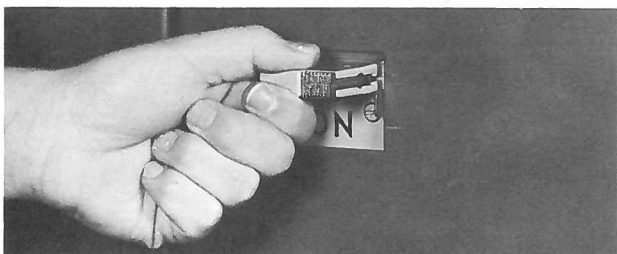

Fig. 15a Operating Handle and Defeater Screw
Finally, all mechanical latches, operating mechanisms and door assemblies should be checked for proper alignment and operation. Mishandling in transit can cause misalignment. The doors can be adjusted by loosening the screws on the hinge leaves attached to the structural members. A final check on the proper positioning of each door dictates that the disconnect operating mechanism operates correctly without mechanical interference in both the "ON" and "OFF" positions. When the mechanism is in the "ON" position, the door should not open. Figure 15c shows the door interlock on the rear of the door and its method of adjustment. Turning the defeater screw below the operating handle a quarter turn counterclockwise will defeat this door interlock (Fig. 15a).
5. Interlock lever (No. 5) may be raised above door interlock (No. 4) by turning interlock defeater screw located below the operating handle (See illustration Fig. 15a) a quarter turn counterclockwise. Should this action not allow the lever (No. 5) to clear interlock (No. 4), lower the door hinges slightly to provide their release.